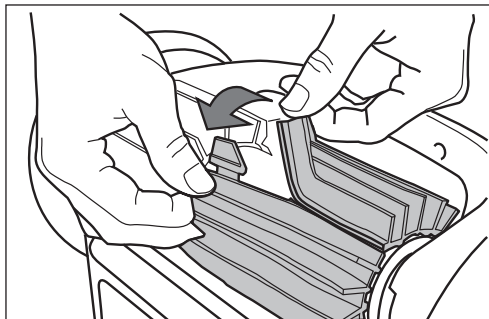

Figure 27. Undo the Tabs of the Brush
2. Separate the edges of the brush and undo the tabs. Remove the worn brush as shown in *Figure 27*.